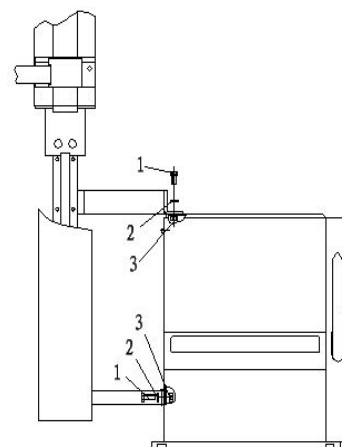

Fig14
- 3) Install the upper support and bottom support on the help arm; Install the help arm on the tyre changer with screw 1 and washer 2;(Fig 14)